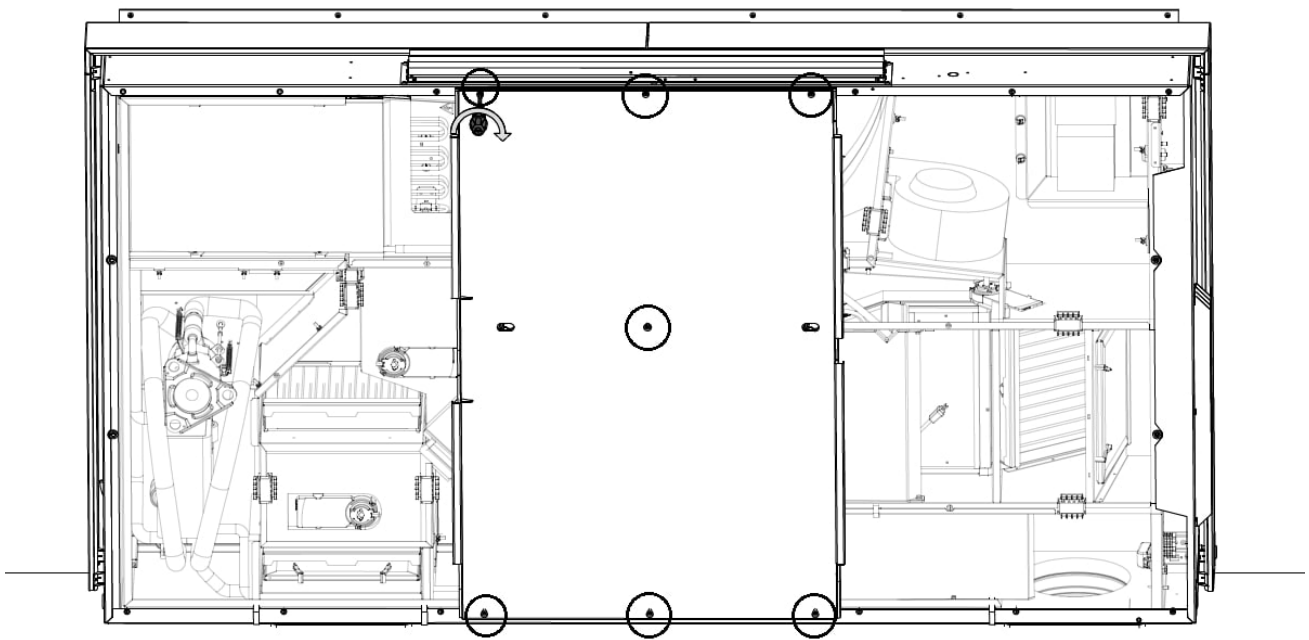

Figure 35: Attachment points for the middle steel plate
3. Screw the steel plate into the unit frame using seven short bolts, see Figure 35 below.